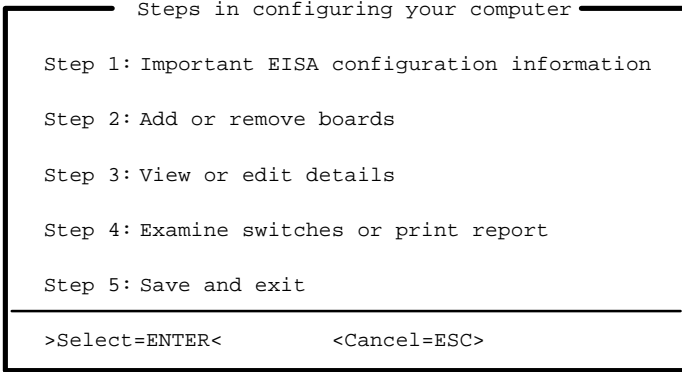

Figure 6-1 ECU Main Menu — Steps in Configuring Your Computer
3. A welcome screen appears. Press **Enter** to leave the Welcome screen and display the ECU main menu—Steps in Configuring Your Computer (see Figure 6-1).